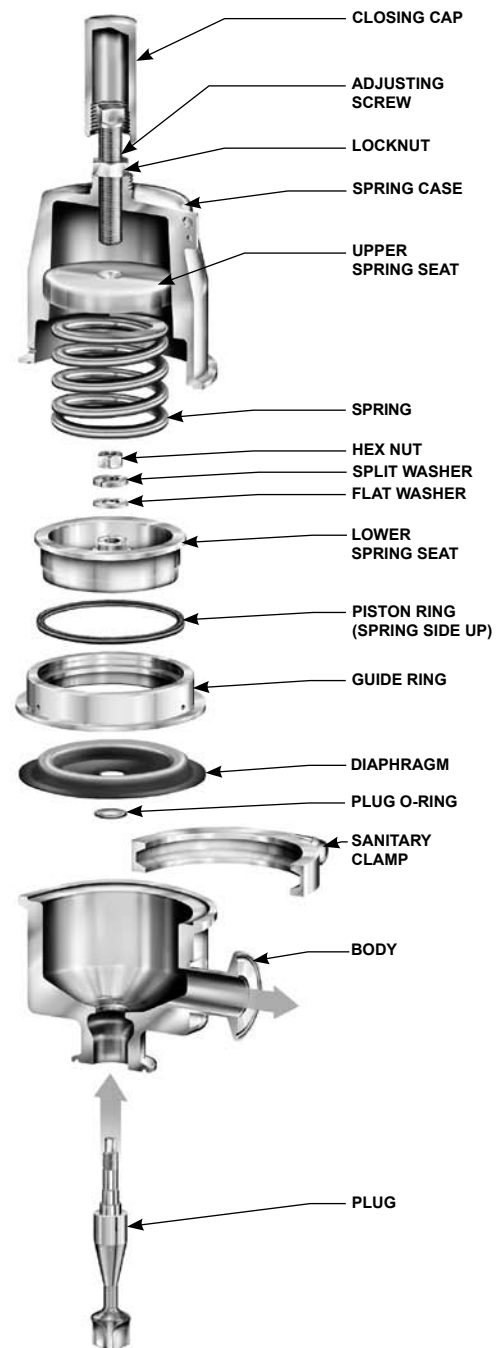

Figure 3. Type SR5 Parts Explosion
**If the product is disassembled and includes a metal diaphragm, both diaphragm gaskets (key 6) should be replaced to ensure a good seal at the diaphragm flange.**
**If removed from the guide ring (key 9), the piston ring (key 5) should be replaced. Take care not to damage the piston ring during replacement.**
4. Loosen the nut (key 16) while holding wrench flats on plug (key 3) to inspect internal wetted parts. Remove the lock washer (key 24) and flat washer (key 23). The lower spring seat (key 8), guide ring (key 9), diaphragm (key 7), and plug O-ring (key 3) can now be removed from the plug (key 2). An optional lower diaphragm plate (key 10) and O-ring (key 4) are included for the constructions offering protection against vacuum conditions.
5. Remove the plug (key 2) through the inlet port of the body (key 1). Inspect parts for damage. Replace if damage is noted. Refer to the section titled Soft Seat Maintenance when the seat needs to be replaced.
6. Reassemble in the reverse order of the above procedure. Start by inserting the plug (key 2) through the inlet port of the body (key 1). The order is listed below or please refer to Figure 3.
- a.) Plug (key 2)
- b.) Plug O-ring (key 3)
- c.) Diaphragm plate (key 10) (vacuum protection construction only)
- d.) Diaphragm plate O-ring (key 4) (vacuum protection construction only)
- e.) Diaphragm gasket (key 6) (Metal diaphragms only)
- f.) Diaphragm (key 7)
- g.) Diaphragm gasket (key 6) (Metal diaphragms only)
- i.) Lower spring seat (key 8)
- j.) Flat Washer (key 23)